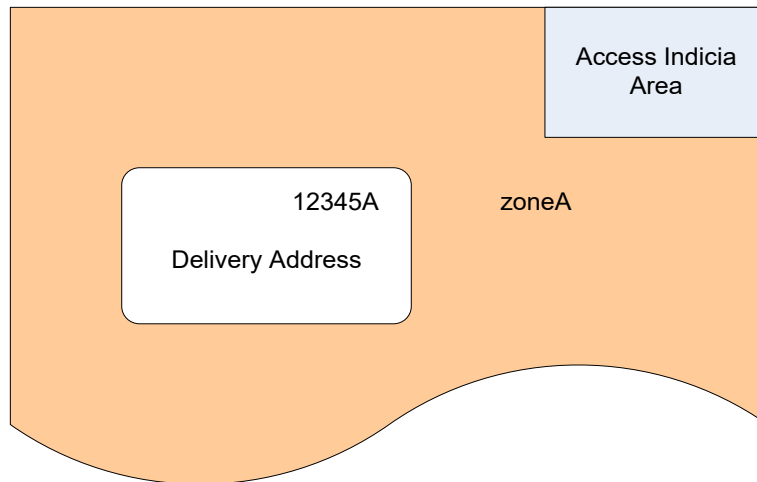

Figure 28: Positioning options for Zonal indicator
- 4.2 There are two options relating to the positioning of the Zonal Indicator on your Mailing Items (see Figure 28):